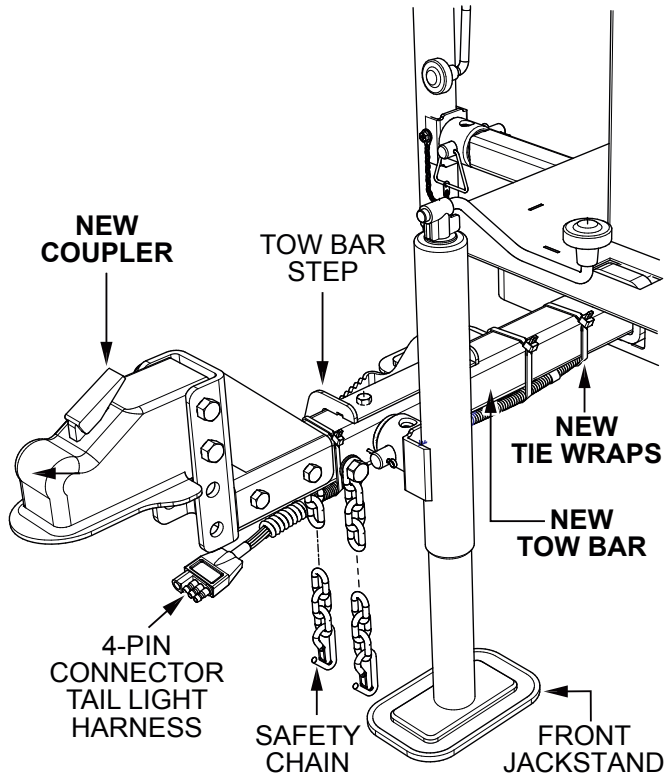

Figure 14. Tow Bar Final Assembly
1. Reference Figure 14 for final assembly.